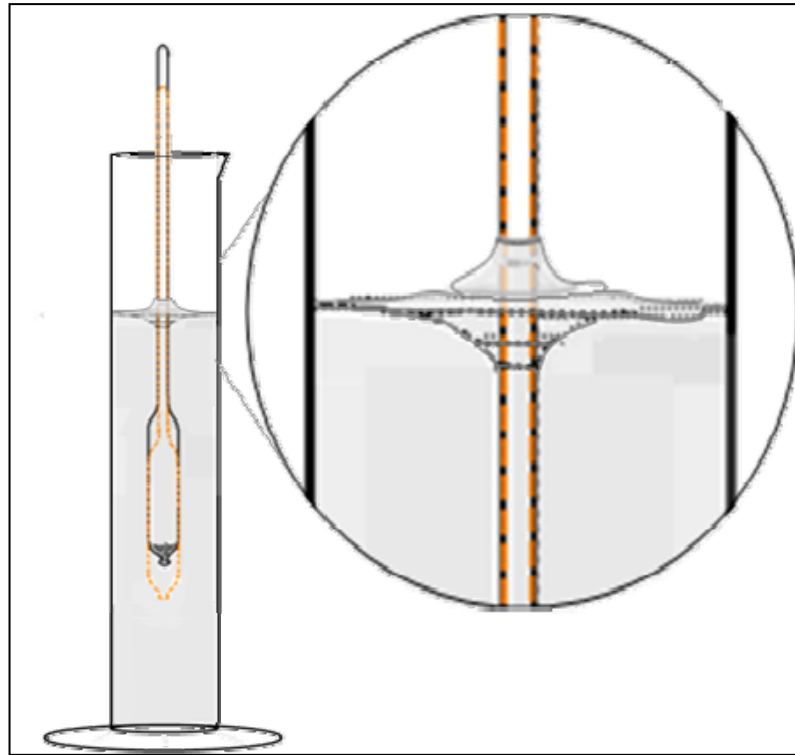

Figure 12: Meniscus crinkled and dragged out
- If the meniscus is crinkled or dragged out of shape by the motion of the hydrometer, then this indicates either the hydrometer or the surface of the solution is not clean (Figure 12).